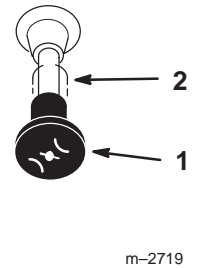

Figure 16
4. Move the choke control to *on* position before starting a cold engine (Fig. 16).
7. After the engine starts, move the choke to *off* (Fig. 16). If the engine stalls or hesitates, move the choke back to *on* for a few seconds. Then move the throttle lever to desired setting. Repeat this as required.